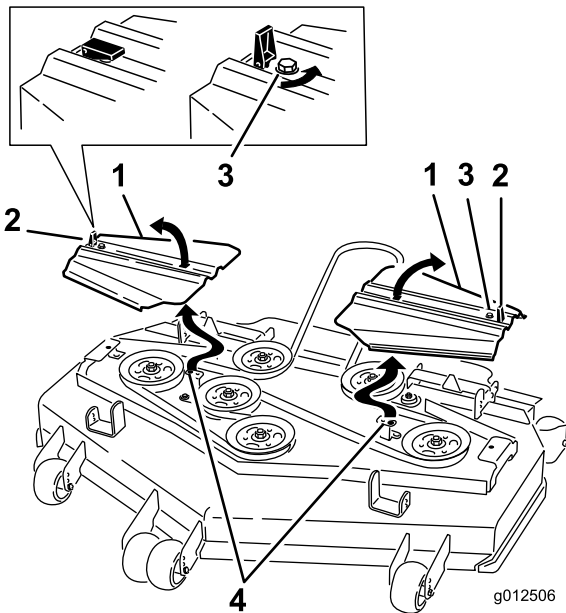

Figure 61
14. Install the belt covers with the tabs in the slots. Install the screws and close the latches (Figure 61).